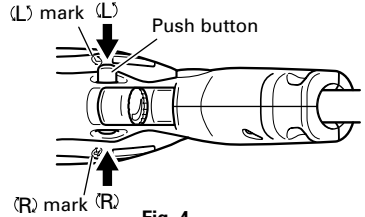

Fig. 4
8. Check the rotational direction (Fig. 4)